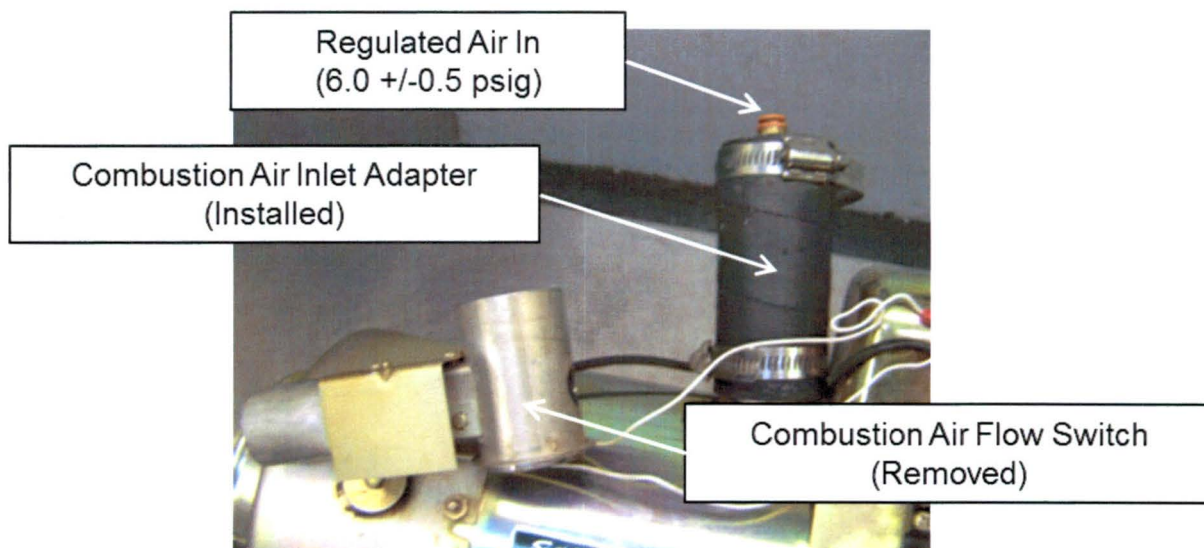

Figure 2
- 6.2 Loosen and remove all flex tubing, elbows and adapters that may be mounted between the combustion air blower and heater. This includes removal of the fuel line and the combustion airflow switch. The combustion air inlet is shown with the combustion airflow switch removed, and fuel tube sticking out. (Figure 2)
- 6.3 Install the PDT combustion air inlet adaptor on the combustion air inlet. (Figure 2)